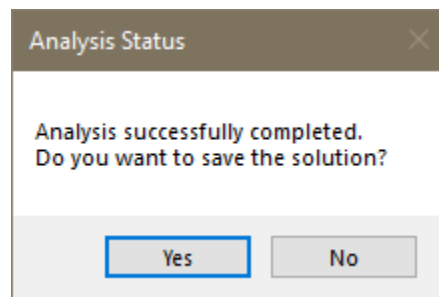

Figure 6-6
- Upon completion of the Analysis process the program prompt you to save the solution as shown in **FIGURE 6-6**.